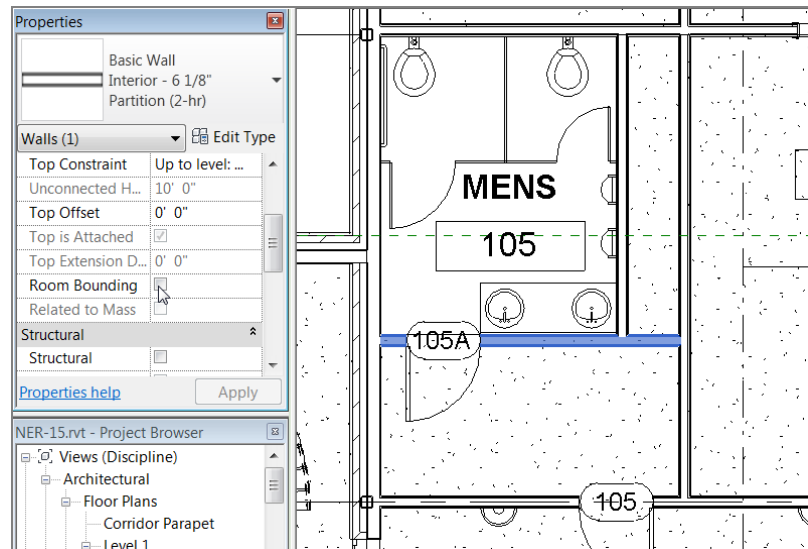

FIGURE 15.10 Selecting the partition within the men's lavatory
2. Select the wall that divides the men's toilet area from the men's lavatory entry area, as shown in Figure 15.10.
4. Deselect Room Bounding (see Figure 15.10).